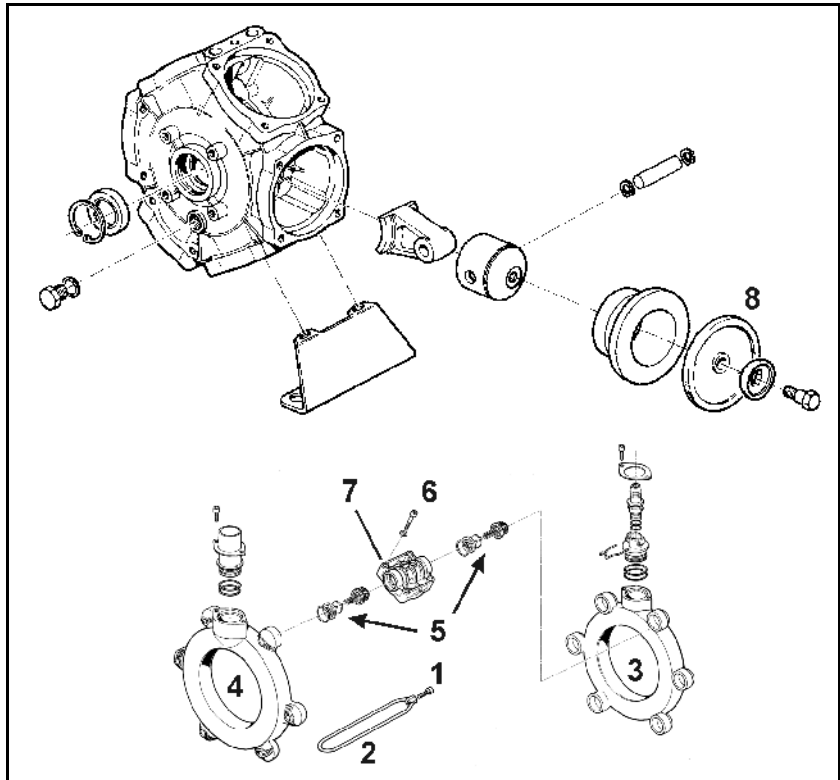

Fig. 149
- Check the piston diaphragms (Fig. 149/1) at least once a year by dismantling them.
- Pay attention to the fitting position of the suction- and pressure-side valves before you remove the valve groups (Fig. 149/5).
- Always replace all 6 piston diaphragms (Fig. 149/6) even if just one piston diaphragm is swollen, broken or porous.
2. Slacken bolt (Fig. 149/1) and remove tensioning clamp (Fig. 149/2).
3. Take off suction- and pressure channel (Fig. 149/3 and Fig. 149/4).
4. Take off valve groups (Fig. 149/5).
5. Tighten bolts (Fig. 149/6).
6. Remove the cylinder head (Fig. 149/7).
7. Check the piston diaphragms (Fig. 149/8).
8. Replace faulty piston diaphragms (Fig. 149/8).